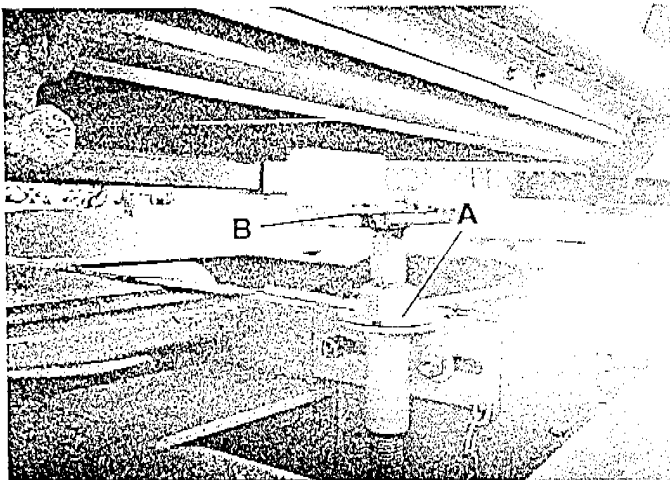

Fig. 28
- Rotate the fastening plate on the jack (a) to lower the support head on the jack. (Fig. 28)